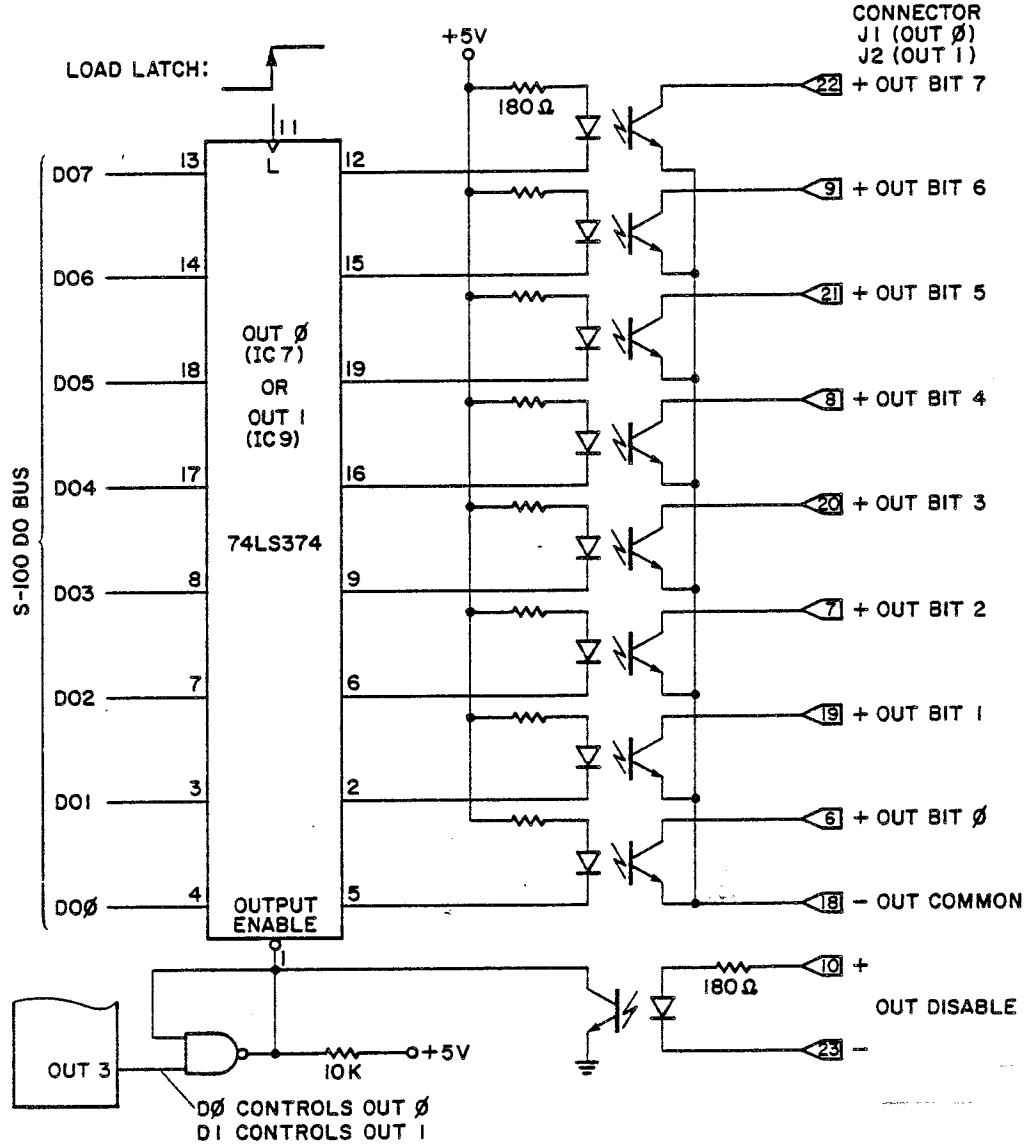

Figure 11: OUT 0 & OUT 1 CIRCUITRY
(E) The 8-bit latch (IC7 or IC9) drives the opto-isolator inputs as shown in Figure 11. The latch must be brought out of its tri-stated outputs condition by applying an active low level to the OUTPUT ENABLE line, pin 1. This is accomplished by sourcing 0 mA of current to the OUTPUT DISABLE 0/1 input LED, and by making bit D0/D1 of 4PIO control port OUT 3 logic 1. See Section 2.6 for a full discussion of control port OUT 3. When the latch outputs are tri-stated, all OUT 0/OUT 1 MCT-66 output transistors are OFF. When the latch outputs are made active, the data byte bits drive the opto-isolator inputs (logic 0 bits turn MCT-66 output transistors ON; logic 1 bits turn MCT-66 output transistors OFF). The MCT-66 outputs are then coupled to the isolated system as discussed in Section 2.3.